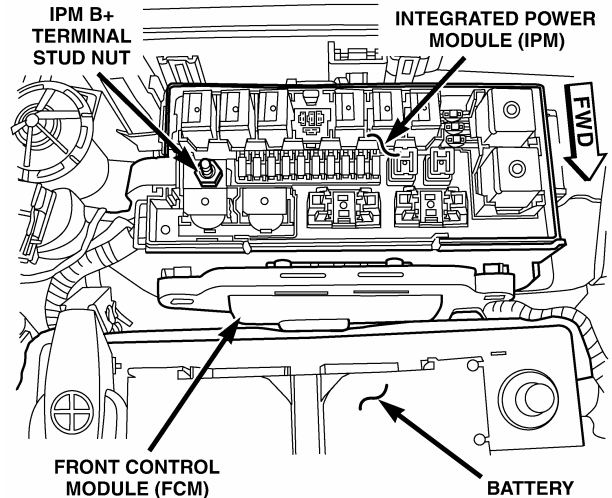

Figure 1
- b. Remove the nut from the IPM B+ terminal stud (Figure 1).
17. Install the IPM B+ terminal stud nut (Figure 1). Tighten the nut to 105 in. lbs. (11 N·m).